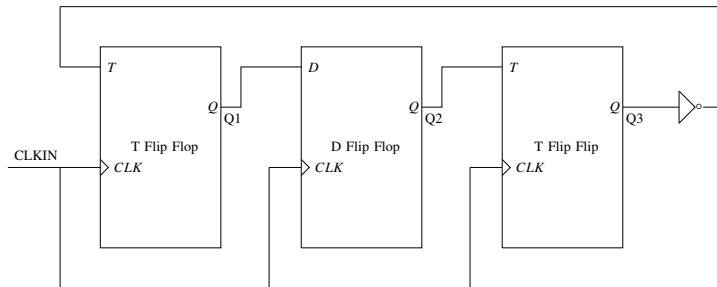

Fig. 5.8
8. Consider a sequential digital circuit consisting of T flip-flops and D flip-flops as shown in Fig. 5.8. CLKIN is the clock input to the circuit. At the beginning, Q_1, Q_2 and Q_3 have values 0, 1 and 1, respectively. Which of the given values of (Q_1, Q_2, Q_3) can NEVER be obtained with this digital circuit? (GATE CS 2023)